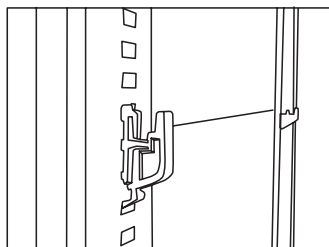

fig. 9A
2. Replace shelf brackets in desired position (fig. 9A).